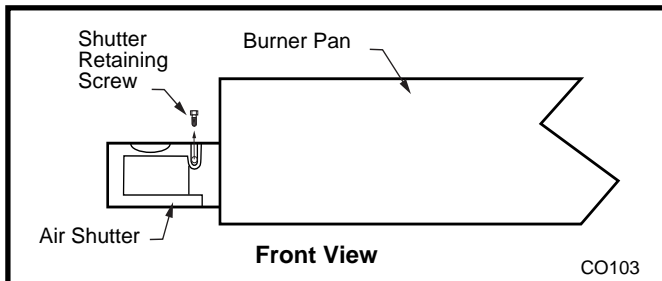

Fig. 68 Remove air shutter from burner pan.
8. Remove both air shutters from burner pan by removing air shutter retaining screw then air shutter. (Fig. 68)